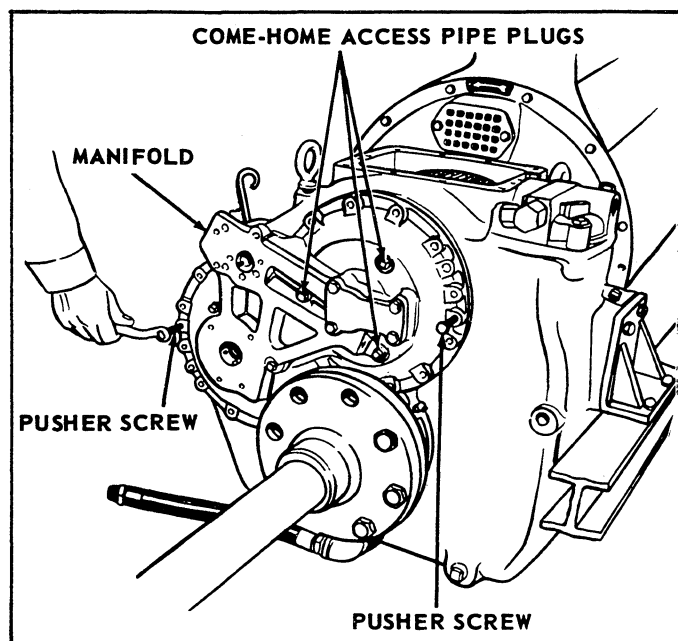
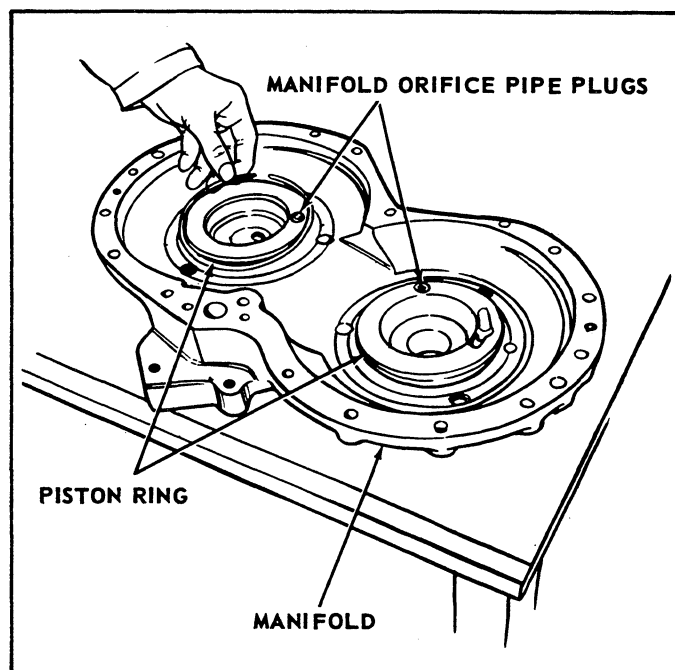

Figure 24. Removing the Manifold with Pusher Screws.
Figure 25. Removing the Piston Ring from the Manifold.
(7) Remove three bolts (Fig. 24) that secure the output flange to the companion flange for manifold removal clearance. Remove the 16 hex-head capscrews that secure the manifold (Fig. 24) to the main housing. Install two pusher screws (Fig. 24) in the 3/8-16 UNC tapped holes in the manifold. Remove the manifold, with attached parts, and the manifold-to-main-housing gasket from the main housing. Discard the gasket. Remove the two piston rings (Fig. 25) and the manifold orifice pipe plugs from the manifold only if replacement of parts is necessary.